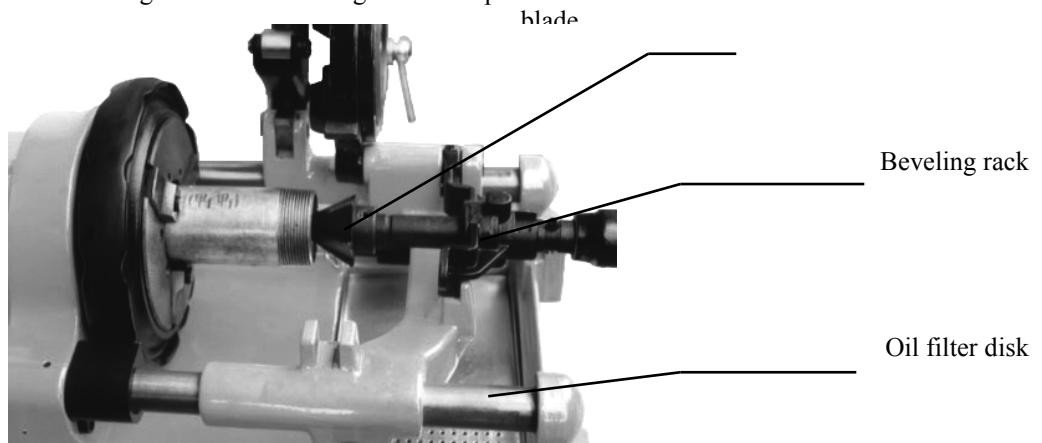

Fig. 6
2. Start the machine. Rotate the sledge hand wheel and drive the beveling device to the inside of the pipe. (see Fig.6)